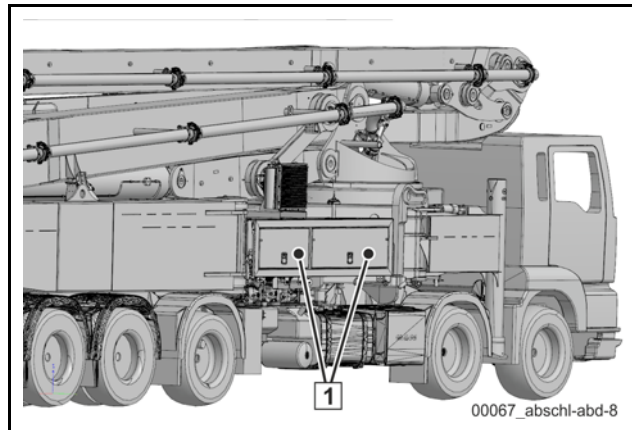

Fig. 208 Position, “emergency operation” control platform (example illustration)
The emergency operation control platform (**Fig. 213**) is located on the right in the direction of travel, behind a lockable flap (1) (**Fig. 208**).